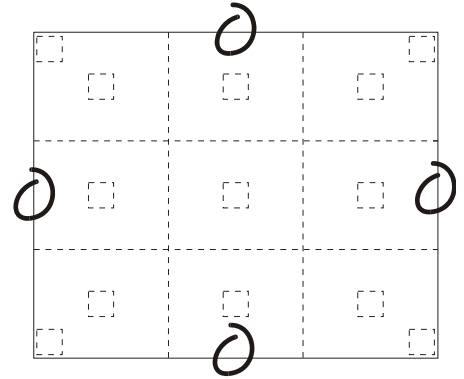

FIGURE 3-35 -13-POINT TEST PATTERN
- c. Select the 13-Point test pattern for display. This pattern provides nine screen “zones” with 13 targets, see *Figure 3-35*.